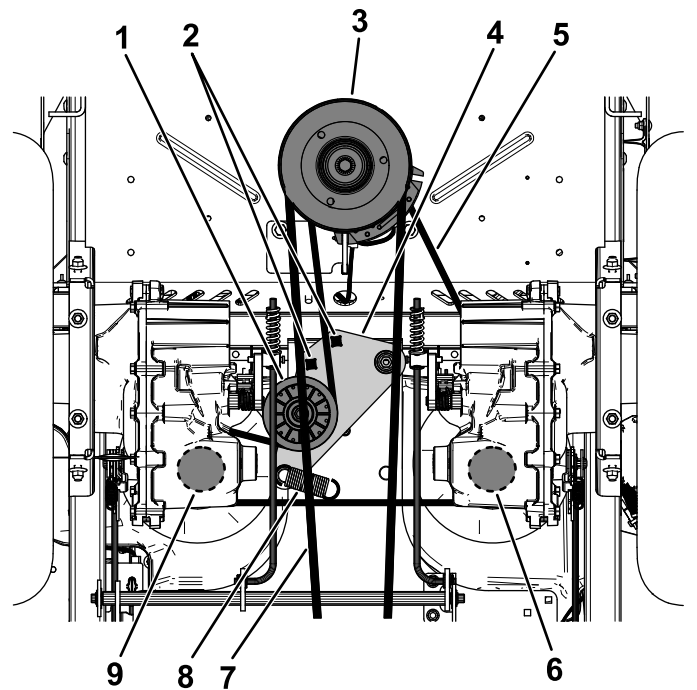

Figure 66
5. Use a 1/2-inch ratchet or breaker bar in one of the square holes in the idler arm to remove tension on the idler spring (Figure 66).
6. Remove the existing belt from the idler pulley, 2 hydraulic-pump-drive pulleys, and engine pulley (Figure 66).
7. Install the new belt around the idler pulley, engine pulley, and 2 hydraulic-pump pulleys (Figure 66).